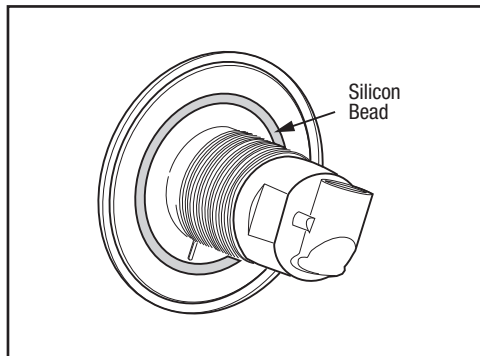

Figure 1. Apply Silicon to Fiberglass Niche
5. Run a bead of silicone around the back face of the niche. Ensure the silicone runs as one continuous line approximately 10mm to 15mm in from the outer edge of the niche. See *Figure 1*.